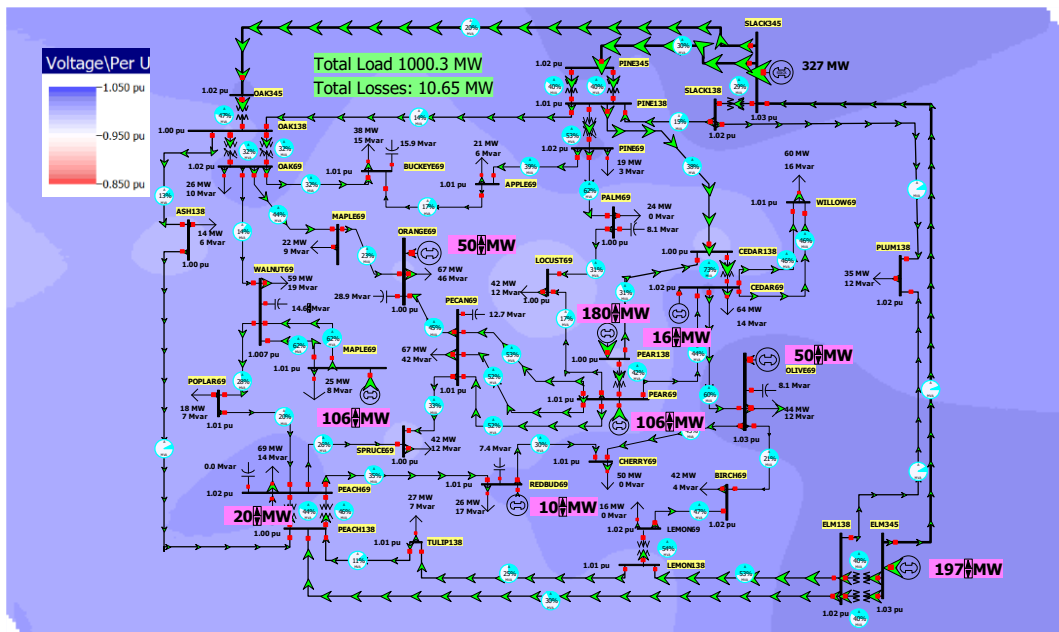

Figure 2: 37 Bus Extreme Loading Scenario Case
10. Last, in the spirit of friendly competition, we'll consider the 37 bus system (which you'll see again later in the semester) shown in Figure 2. This case is setup so the load, which is originally 1000 MW, continuously increases at a rate of 500 MW per hour of simulation time. This simulation is also set to run at 60 times real-time. So rather quickly the system will reach a point of maximum loadability, which will be indicated by a blackout! The case is also set to show a voltage contour, in which red indicates decreasing voltages. Your goal is to adjust the generation at nine generators (indicated by the magenta background fields) to forestall the inevitable blackout for as long as possible. All generators change at 10 MW per click. Save an image in your report showing that maximum load you achieved at the point of blackout. Feel free to pause the simulation to consider your strategy, and to run the case as many times as time allows (note it may be better just to reload the case after each run rather than trying to reset it). You may wish to run it once initially just to see how it collapses. You may **not** open any loads, but you can open generators and/or transmission lines. We'll see who gets the highest total load! However, only images that have "Total Losses" less than 250 MW will count.